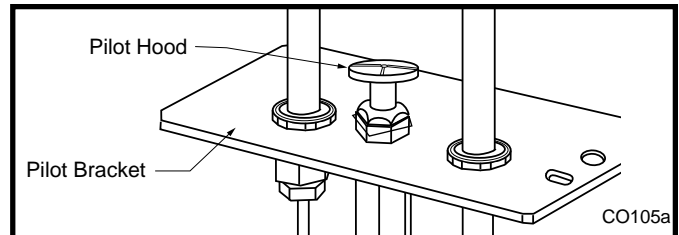

Fig. 61 Remove pilot hood.
7. Remove pilot hood by lifting up. (Fig. 61)